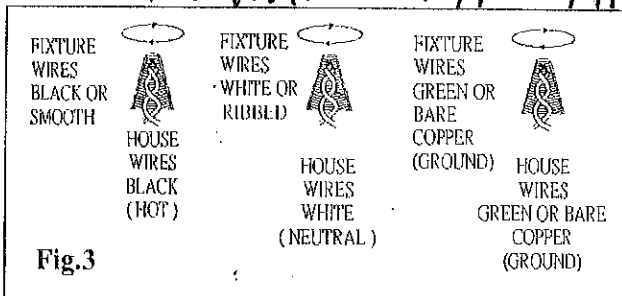

Fig.3
CONNECTING THE WIRES (Fig. 3)
14. At this point, connect the electrical wire as shown in figure 3, making sure that all wire connectors are secured. Wrap the fixture ground wire around the ground screw of the crossbar and then tighten the screw. Connect the remaining fixture ground wire to the supply ground wire using a wire nut. Otherwise, connect the fixture Ground Wire directly to the crossbar using the Green Screw provided.
15. Tuck these wire connections neatly into the ceiling junction box and then raise the canopy all the way to the ceiling. Raise the Lock Collar(W) and thread onto ceiling Loop protruding through canopy.